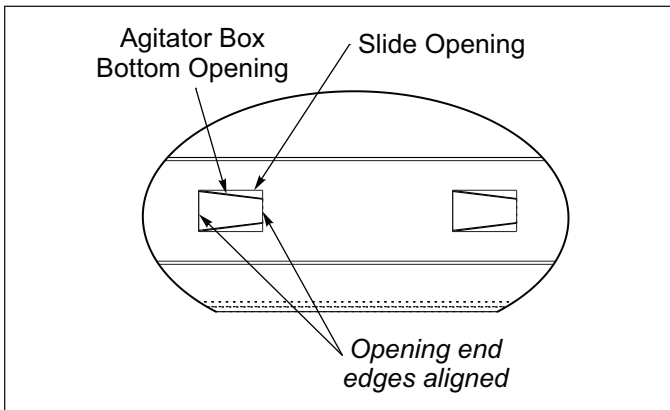

Figure 5-12: Shifter Handle Set at “6”
- When the Shifter Handle is set to “6” (open), the Agitator Box bottom opening end edges are aligned with the Slide opening end edges. Agitator Box bottom opening is completely visible. **See Figure 5-12.**